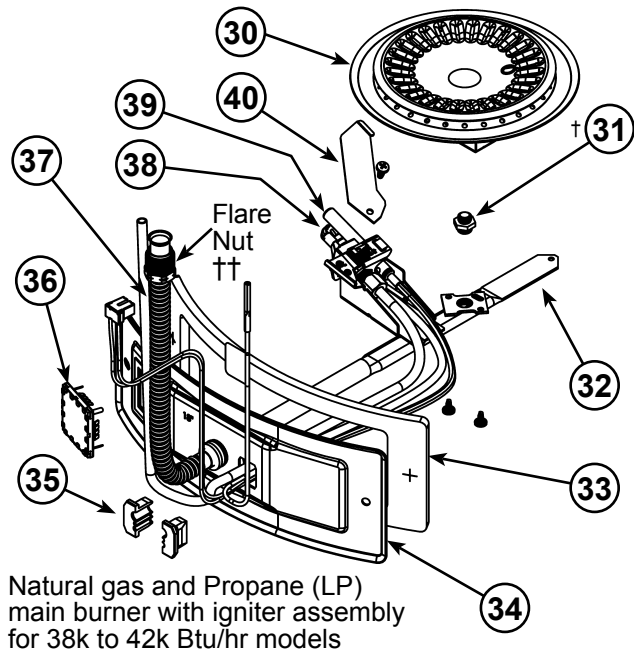
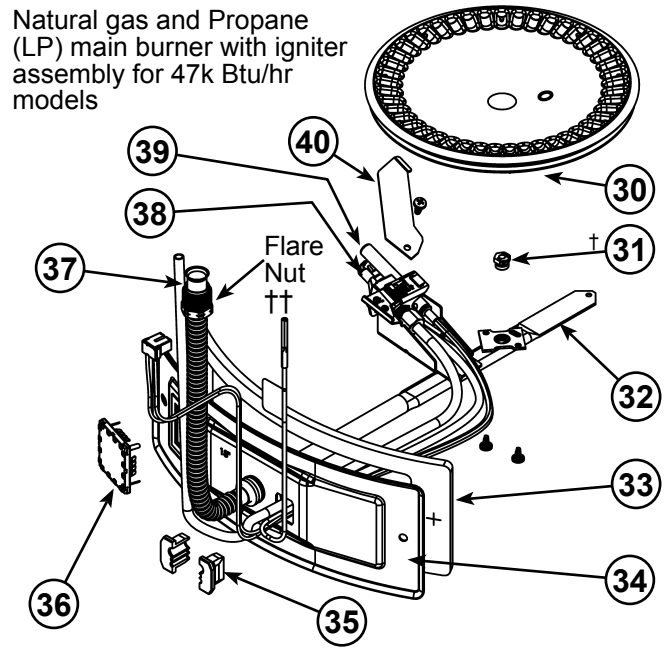

Figure 47
Figure 48
- 12 Manifold Door Assembly (behind outer door) (see Figure 3 & Figure 4) (see also **Figure 47 & Figure 48**)
- 15 Flexible Manifold Tube (see Figure 3 & Figure 4) (see also **Figure 47 & Figure 48**)
- 30 Sheet Metal Burner (see Figure 3 & Figure 4) (see see also **Figure 47 & Figure 48**)
- 31 Gas Orifice (see Figure 3 & Figure 4) (see also **Figure 47 & Figure 48**)
- 32 Gas Manifold (see Figure 3 & Figure 4) (see also **Figure 47 & Figure 48**)
- 33 Manifold Door Gasket (see Figure 3 & Figure 4) (see also **Figure 47 & Figure 48**)
- 34 Manifold Door (see Figure 3 & Figure 4) (see also **Figure 47 & Figure 48**)
- 35 Two Piece Grommet With Clip (see Figure 3 & Figure 4) (see also **Figure 47 & Figure 48**)
- 36 Viewport (see Figure 3 & Figure 4) (see also **Figure 47 & Figure 48**)
- 37 Flexible Manifold Tube (see Figure 3 & Figure 4) (see also **Figure 47 & Figure 48**)
- 38 Pilot (see Figure 3 & Figure 4) (see also **Figure 47 & Figure 48**)
- 39 Thermopile (see Figure 3 & Figure 4) (see also **Figure 47 & Figure 48**)
- 40 Pilot Shield (see Figure 3 & Figure 4) (see also **Figure 47 & Figure 48**)